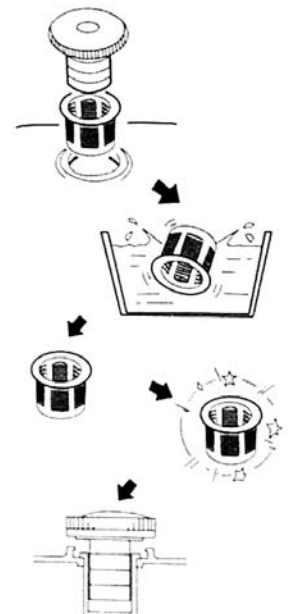

Figure 8
2. Clean tank filter with solvent. See Fig.8.